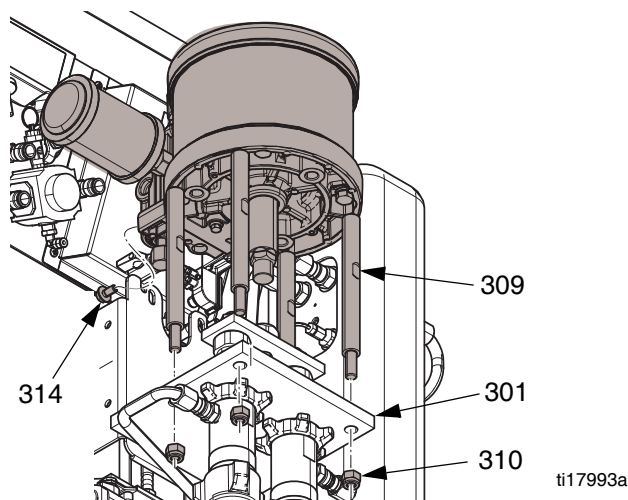

FIG. 2
3. Install tie rods through plate (301). Ensure screws (314) fit in the bracket slots (311). Install screws (314). See FIG. 2.
4. Tighten nut (313) to 32-38 ft-lbs (43-51 N•m).
5. Evenly torque four tie rod nuts (310) in small increments to 27-32 ft-lbs (37-43N•m). See FIG. 2.